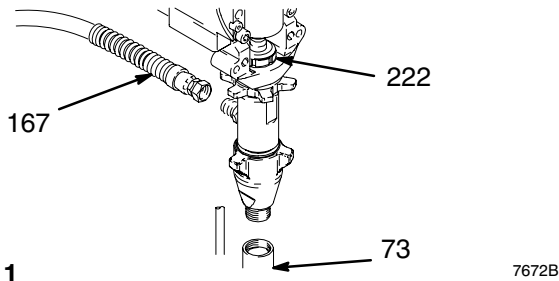

Fig. 11 7672B
3. Fig. 11. Cycle pump with piston rod (222) in its lowest position.
4. Fig. 11. Remove suction tube (73) and hose (167).